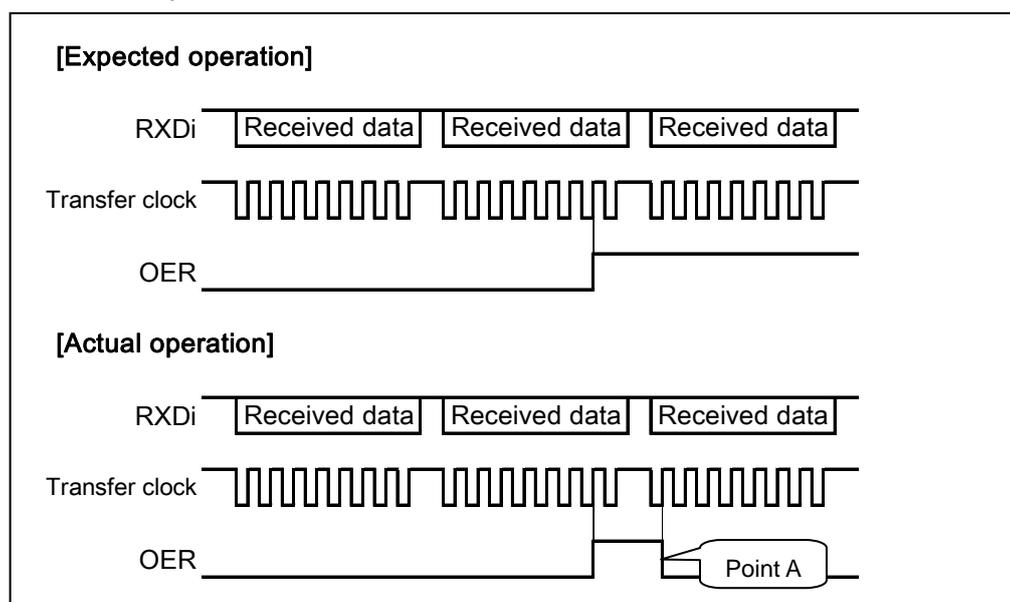

Figure 1. Receive Operation in Clock Synchronous Serial I/O Mode
- 1) The overrun error flag (OER) is set to 1 when an overrun error occurs, but it is cleared to 0 when the next transfer clock is generated. ----- Point A in Figure 1, 2